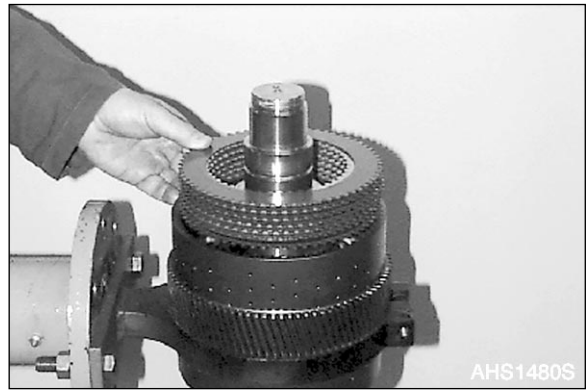
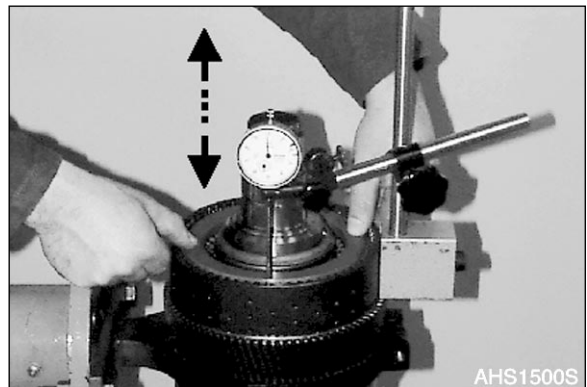

Figure 187
Figure 189
1. Check Plate Clearance - K4 (2.2 - 2.4 mm (0.0866 - 0.0945 in)) (Figure 187- Figure 189).
- C. Press end shim on with about 100 N (10 kg) and set dial indicator to "Zero" (Figure 189).